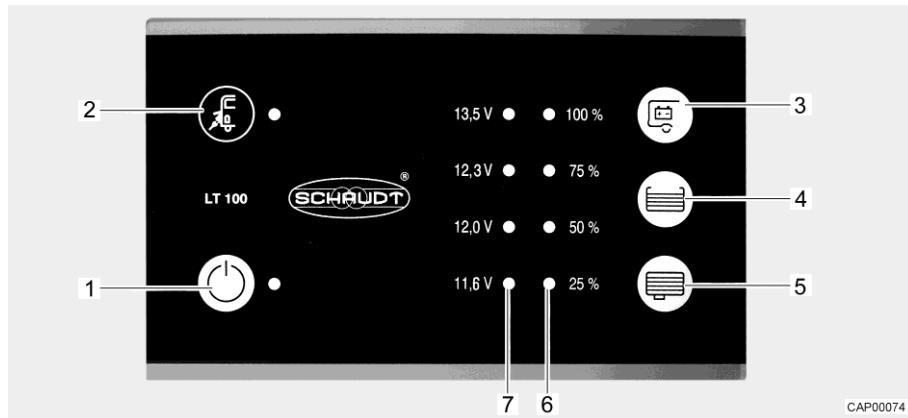

Fig. 46 Panel (LT 100)
The yellow LED at the mains connection symbol "AC" (Fig. 46,2) is lit when the vehicle is connected to an external mains supply. In this case, the LED will also be lit when the panel is switched off.
The 12 V main switch (Fig. 46,1) switches the panel and the 12 V power supply of the living area on and off.
- Press switch "○" (Fig. 46,1): The 12 V living area power supply is switched on. The LED lights up green.
- Press switch "○" (Fig. 46,1) again: The 12 V living area power supply is switched off. The LED goes out.
The LED array (Fig. 46,7) displays the battery voltage of the living area battery as follows:
- Press the button "✉" (Fig. 46,3): The battery voltage of the living area battery is displayed.
The LED array (Fig. 46,6) displays the fill level of the fresh water tank or of the waste water tank.
Press the button "☰" (Fig. 46,4): The fill level of the fresh water tank is displayed by lit LEDs.
Press the button "☰" (Fig. 46,5): The fill level of the waste water tank is displayed by lit LEDs.